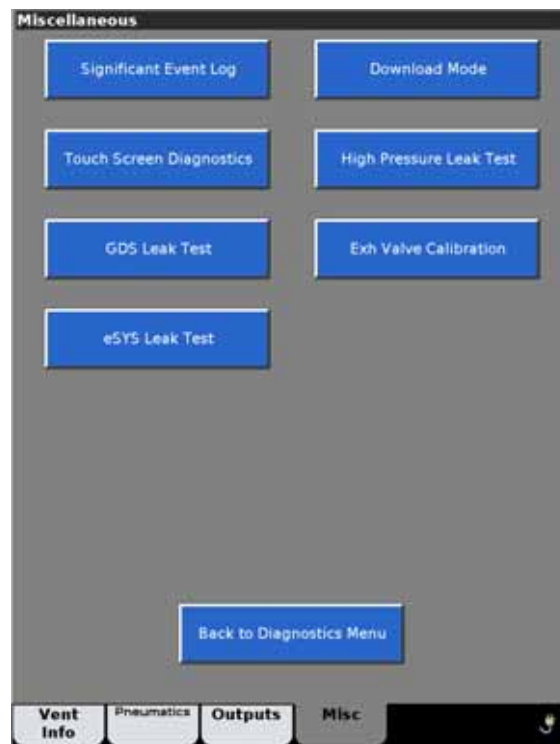

Figure E-10: Miscellaneous screen
- 2 The **Miscellaneous** screen opens (Figure E-10). Select **Significant Event Log**.